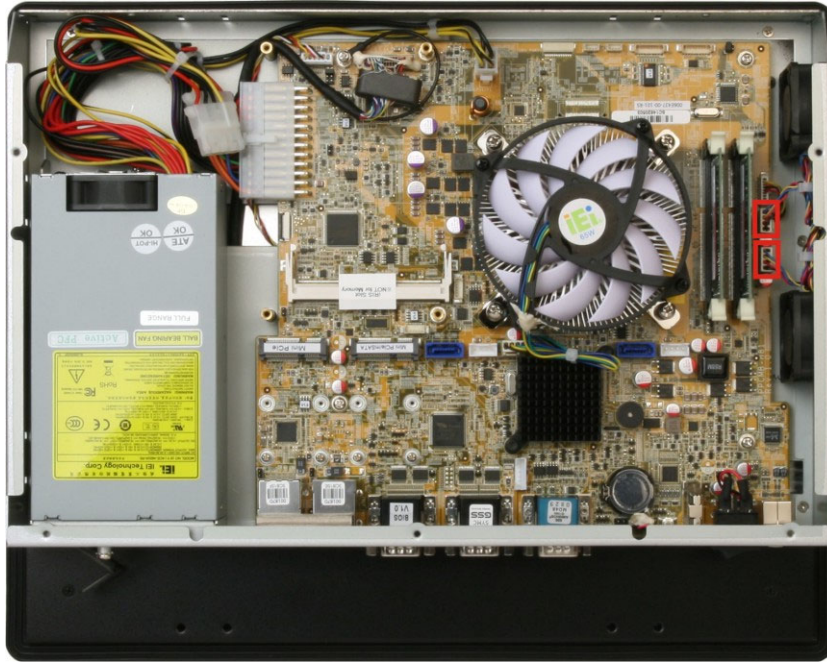

Figure 4-3: System Cooling Fans Motherboard Connectors
Step 2: Disconnect the system cooling fans from the motherboard (Figure 4-3).